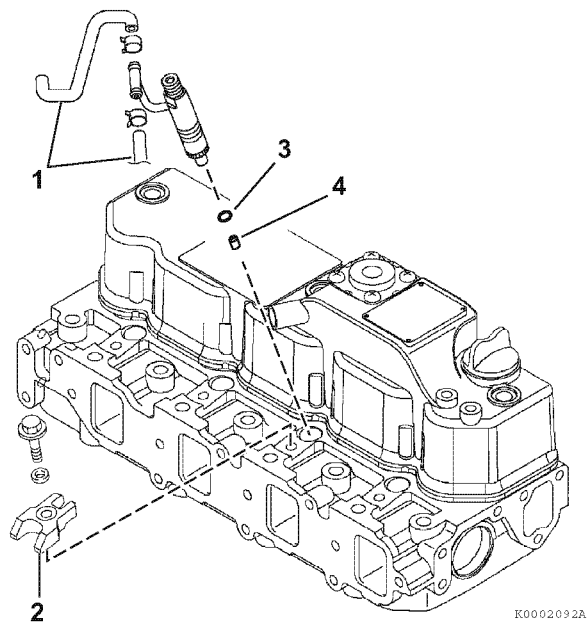

Figure 7-51
3. Remove the return fuel hoses (1, **Figure 7-51**) from one side of each fuel injector.
4. Remove the bolts and washers that secure the fuel injector retainers (2, **Figure 7-51**) to the cylinder head.
7. Remove the injector nozzle protector (3, **Figure 7-51**) and seat (4, **Figure 7-51**) from the cylinder head.